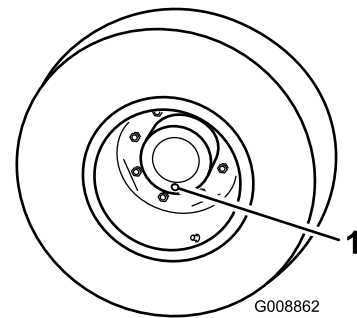

Figure 44
- With the machine on a level surface, position the wheel so that the check/drain plug (Figure 44) is at the 6 o'clock position.